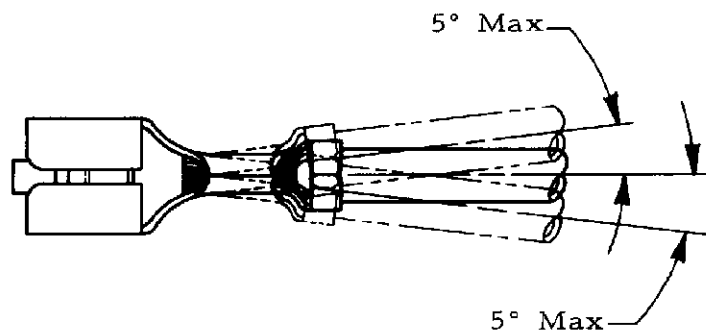

Figure 4
- (2) The side to side bending of the contact shall not exceed the limits specified in Figure 4.